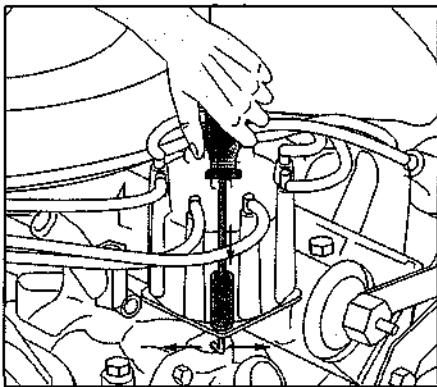
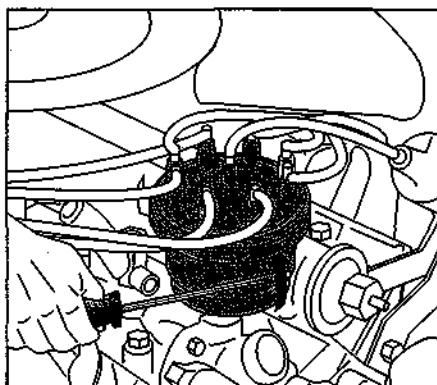

Figure 12-13:
Figure 12-14:
Most caps are held in place by either screws (see Figure 12-13) or clips (see Figure 12-14).
- ⑦ Under the rotor (and possibly the static shield) are the points and condenser. Before you remove the condenser, look at the two little wires, one leading to the points and the other to the condenser, that join together — usually with some sort of little screw and washer arrangement (refer to Figure 12-13).